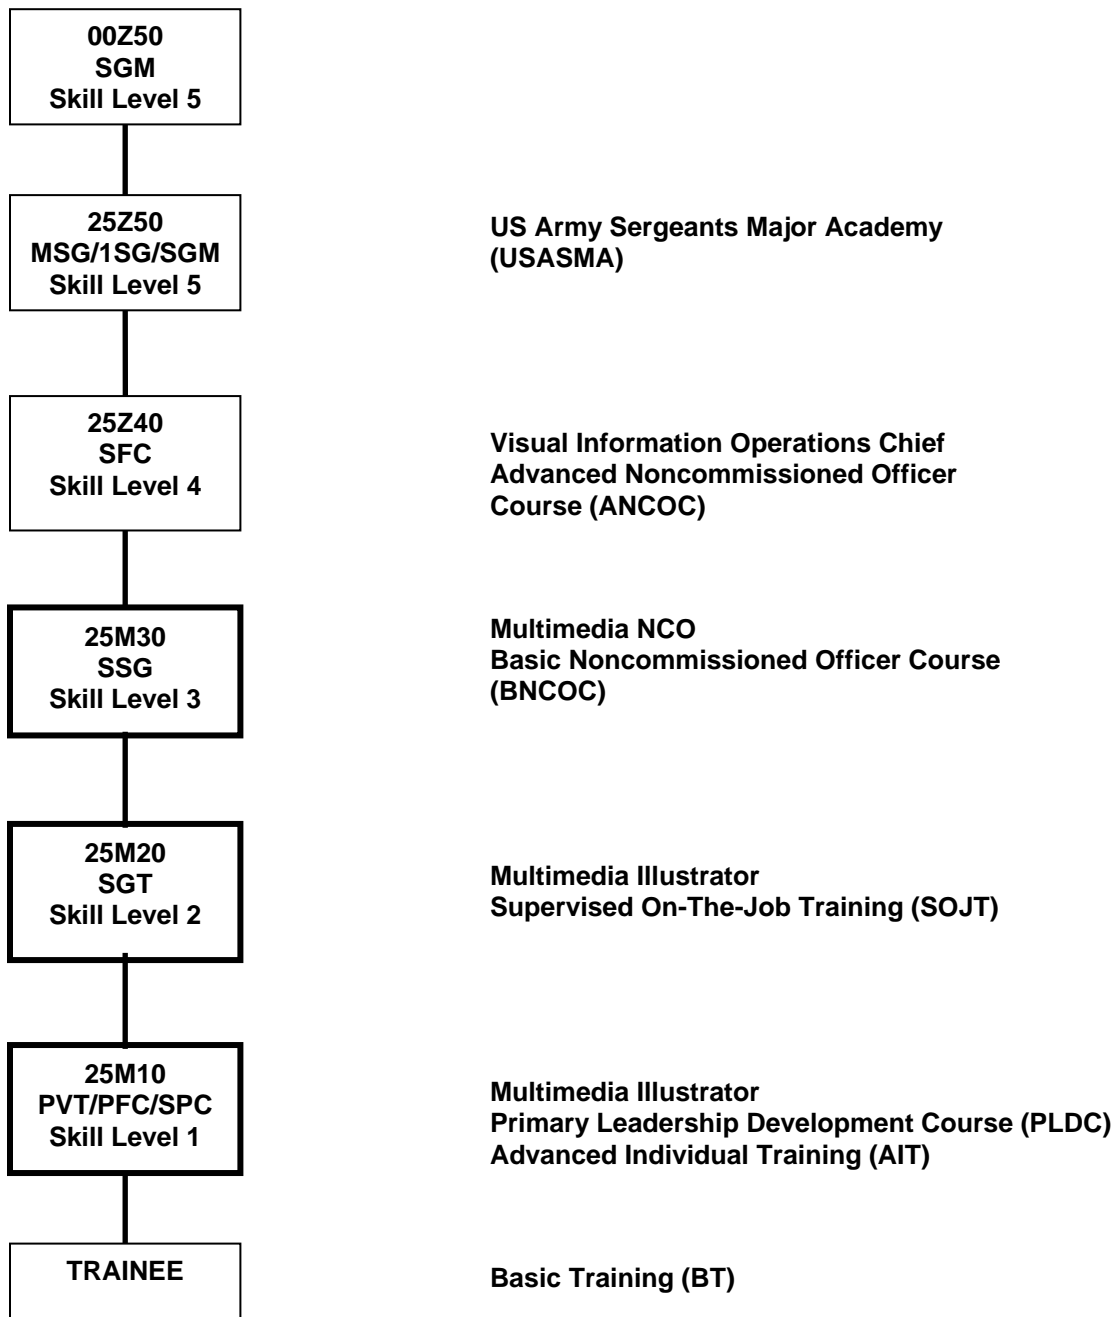

Figure 1-1. Skill level and training progression, MOS 25M.
b. The career progression chart for MOS 25M is shown in Figure 1-1. It shows the entry level soldier and the path he must follow to SL5. There are no decision points for the 25M soldier.
e. Comments or questions on material in this manual may be directed to the Branch Chief, US Army, Signal Corps Regimental NCO Academy Detachment, ATTN: ATZH-SDT-T, Chief Training Development, Fort Meade, MD 20755-5805, telephone DSN 923-5805/5802 or commercial (301) 677-5805/5802.